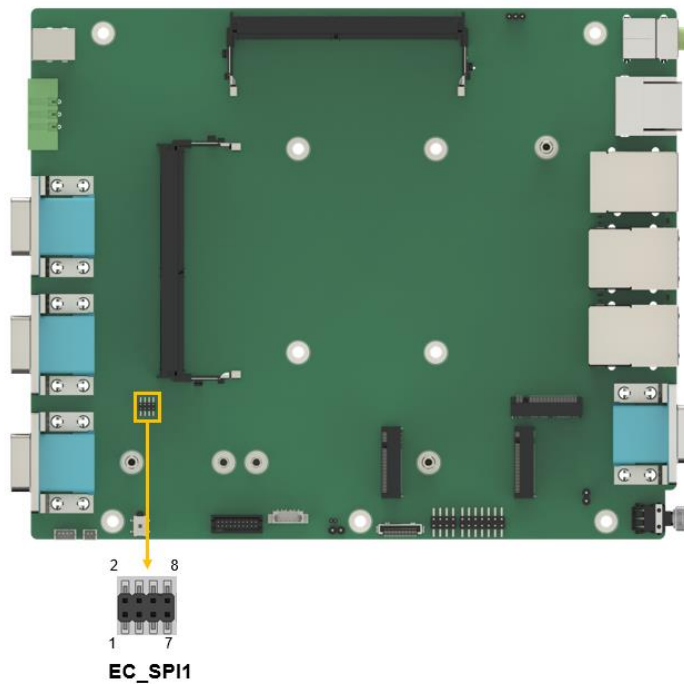

Figure 4-12: Flash EC ROM Connector Location
- CN Location:** See Figure 4-12